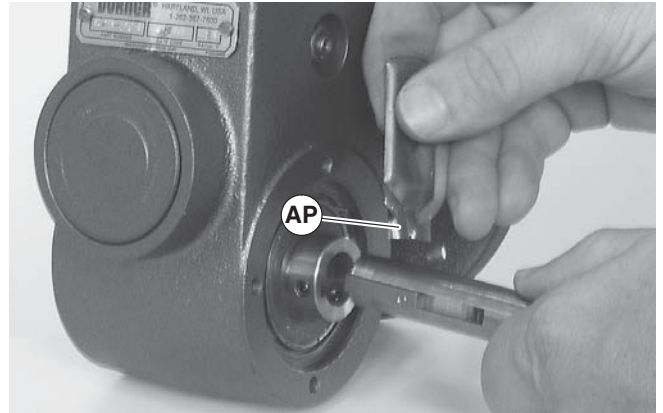

Figure 26
10. Apply grease (Figure 26, item AP) to shaft.